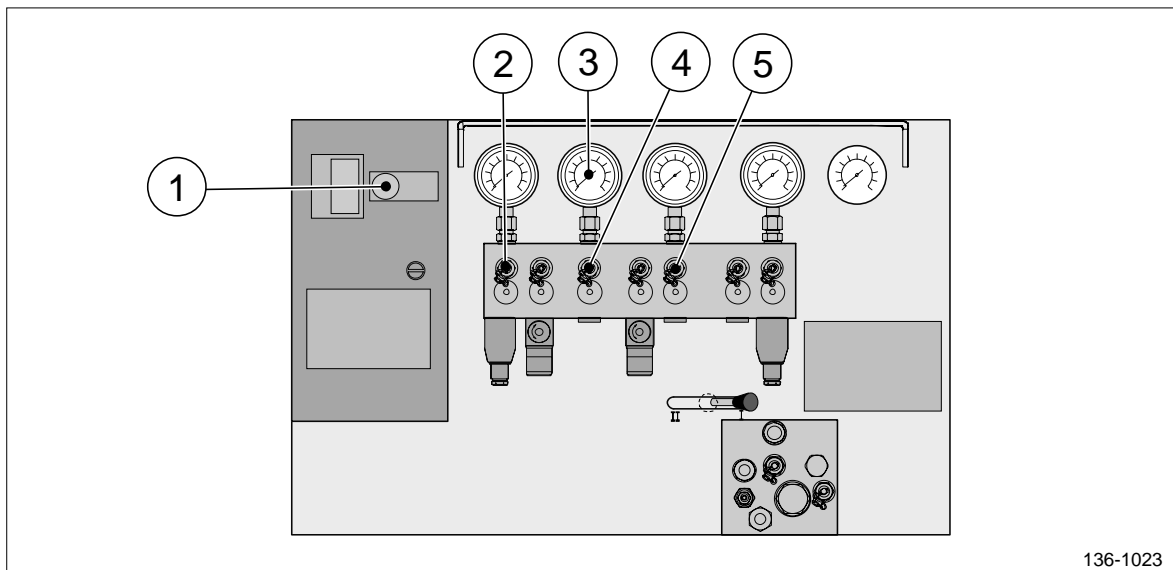

Figure 3 Control panel on the hydraulic power pack.
5. Set the local/remote switch (pos 1, figure 3) on the hydraulic power pack control panel to **LOCAL CONTROL**.
8. Connect a hose with test connection to test nipple TP5 (pos 5, figure 3). Note that when the hose is connected to the test nipple, oil will flow out and release the pressure. Take proper measures to collect the oil.
10. Connect a hose with test connection to the test nipple TP3 (pos 2, figure 3). Note that oil will flow out and release the last pressure. Disconnect the hose and repeat this procedure on the test nipples TP4 and TP5 (pos 4 and 5, figure 3). Dispose the collected oil according to local regulations.
17. Check the pressure on the pressure gauge G3 (pos 3, figure 3). If the pressure is not in accordance with the pressure value stated for valve V8 on the Hydraulic